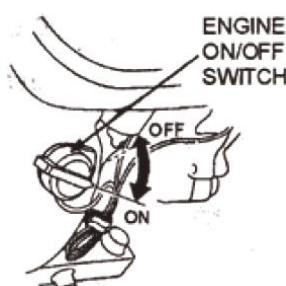

FIG.9
- 9.5 Place the engine ON/OFF switch (FIG. 9) in the "ON" position.